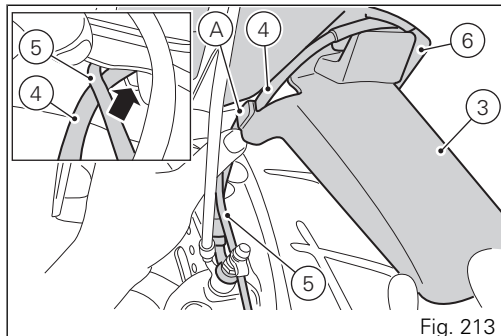

Fig. 213
Position the front semi-mudguard kit (3) on the front mudguard (6), housing the front brake pipe (4) and the front phonic wheel cable (5) as shown in the figure (Fig. 213).